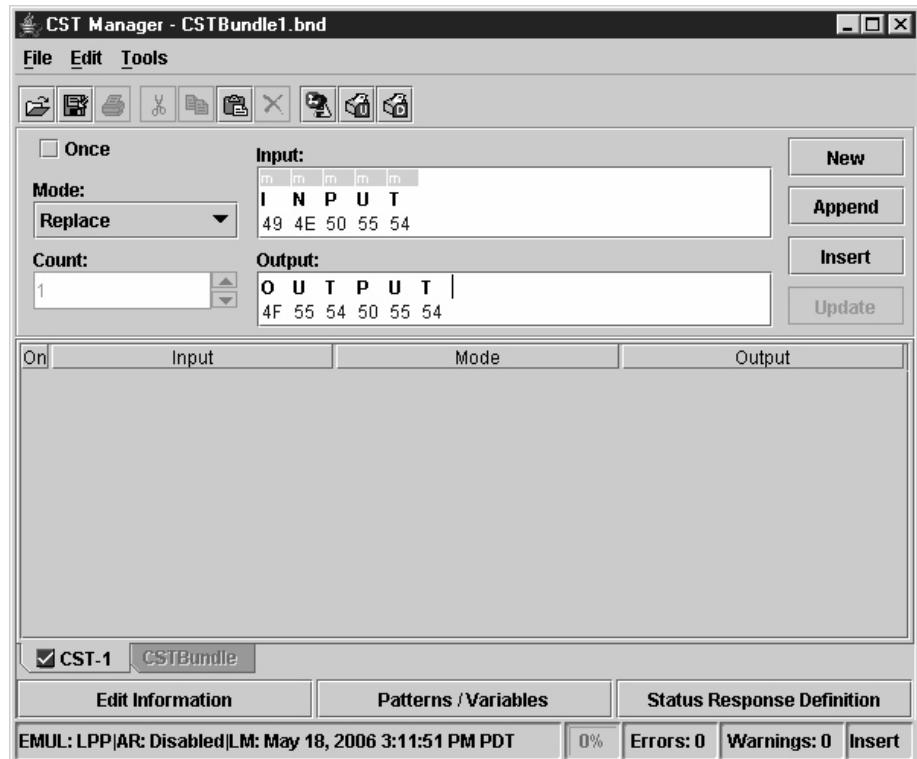

Figure 128. Creating a CST to Download Into a Printer
The datastream adapter is a software filter tool that allows you to take data from an incoming datastream and replace the data with different data, insert new data at any location in the datastream, or flush out portions of the datastream. This is accomplished through Character Substitution Tables (CSTs) created by the CST Manager (page 148). See Figure 128.
4. In the Output field, type **OUTPUT**. See Figure 128.